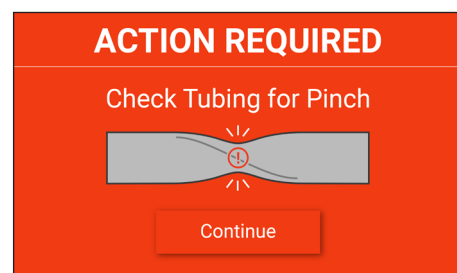

Figure 28. Pinched tubing alert screen
1. The Guardian 2 System will alert the user if the connector tubing is pinched or otherwise occluded, causing an interruption in therapy. (Fig. 28)